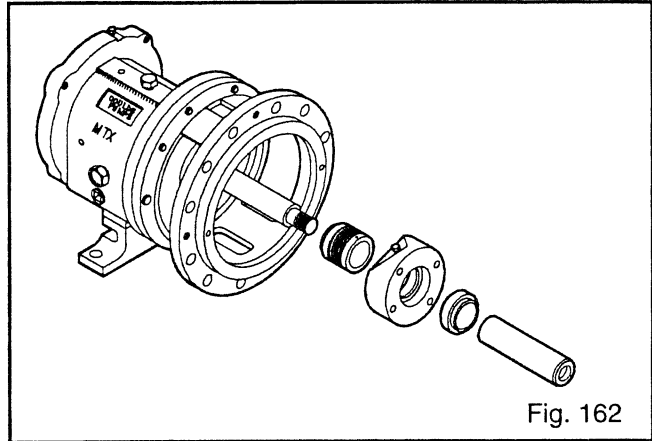

Fig. 162
11. Install the mechanical seal on the shaft (122) or sleeve, if used (126) per the seal manufacturer's instructions. Install the sleeve with the seal, if used.
12. Slide gland and then stationary seat, with gaskets, on the shaft or sleeve (Fig. 162).